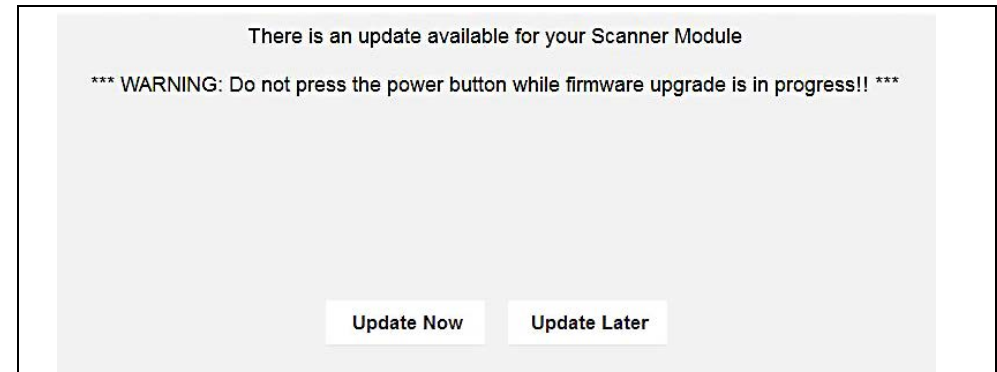

Figure 4-9 Firmware update message
CSM firmware updates (when available) are delivered with diagnostic software updates/upgrades. Upon starting the Scanner function, initially after a software update or upgrade has been installed, a message may be displayed to inform you an update is available (Figure 4-9).
- Select **Update Now** when the update available message displays (Figure 4-9).